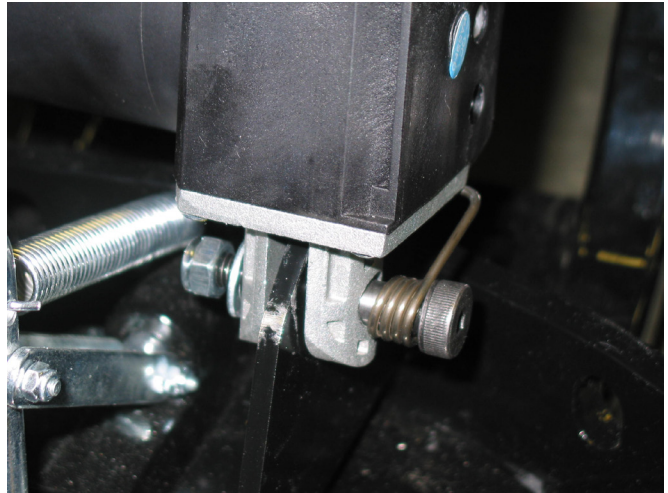

Figure 4
- Secure the shoulder bolt with 5/16" flat washer and M8 lock nut as shown in Figure 4. Torque fastener to 14lb. ft. (19N-m). Note orientation of actuator support spring. When installed properly, the plowlift will automatically tip away from the vehicle.